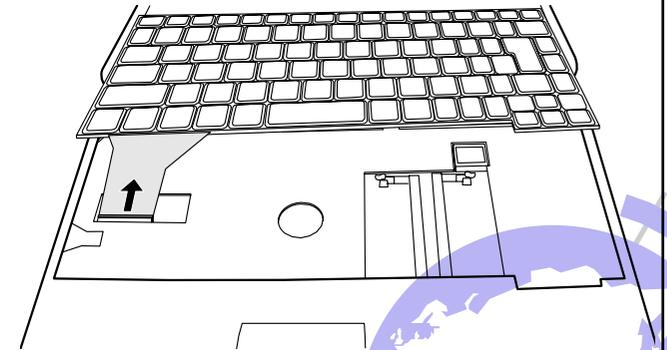

Figure 5-21. Removing the Keyboard
1. Reconnect the keyboard cable and fit the keyboard back into place. (Refer to Figure 5-21 earlier.)